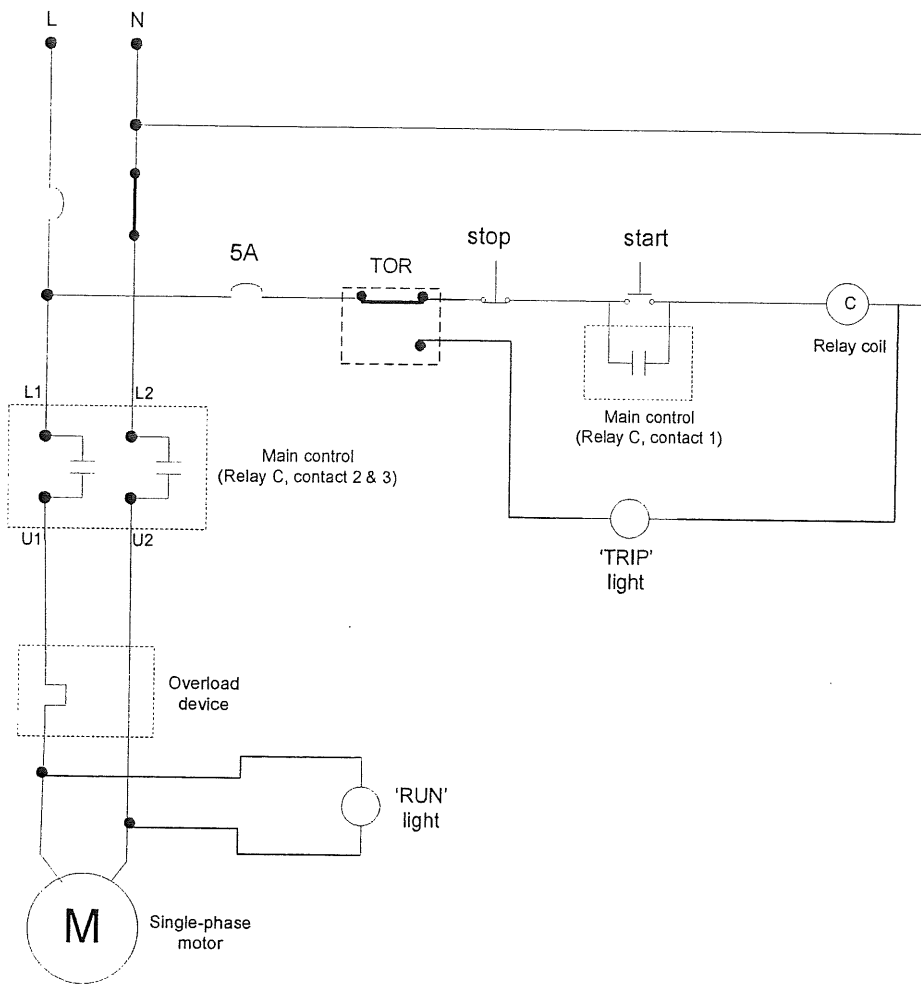

Figure 1
- d) Figure 1 show D.O.L starter schematic diagram connected with electric motors. Illustrate the D.O.L wiring connecting to the 15A socket in **APPENDIX 1**.